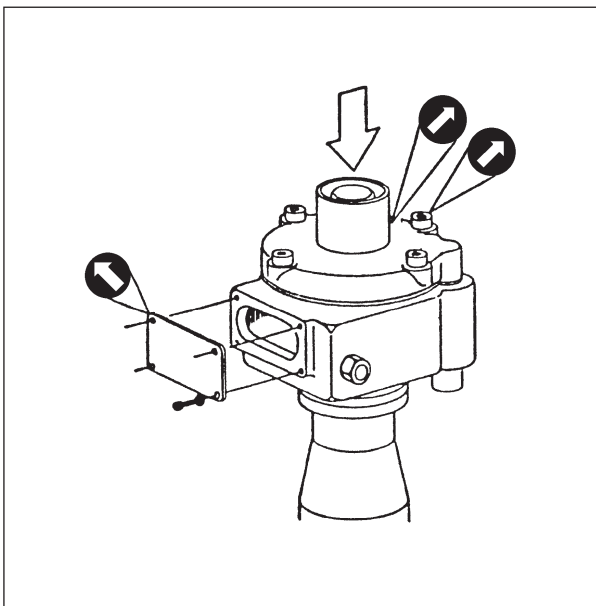

Fig. 1.
**3)** Remove both covers on the housing of the overspeed tripping device, see fig. 1.
**5)** The overspeed device can be tested manually by depressing the button on top of the housing, see fig. 1. This will activate the flyweight and the arm for release of the air valve for the stop cylinders and the engine should thus stop. (This test must also be carried out without load).